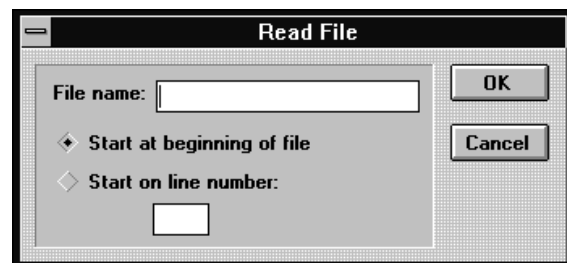

Figure 9-3
1. Click on Read File in the Step and Repeat dialog box to display the Read File dialog box (Figure 9-3).